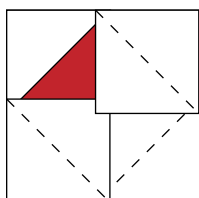
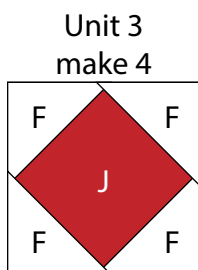

Fig. 10
Fig. 11
6. Follow Figure 10 for the seam direction to add a 3 ½" Fabric F square to each of the remaining corners of the 6 ½" Fabric J square to make (1) Unit 3 square (Fig. 11).
7. Repeat Steps 5-6 to make (4) Unit 3 squares total.